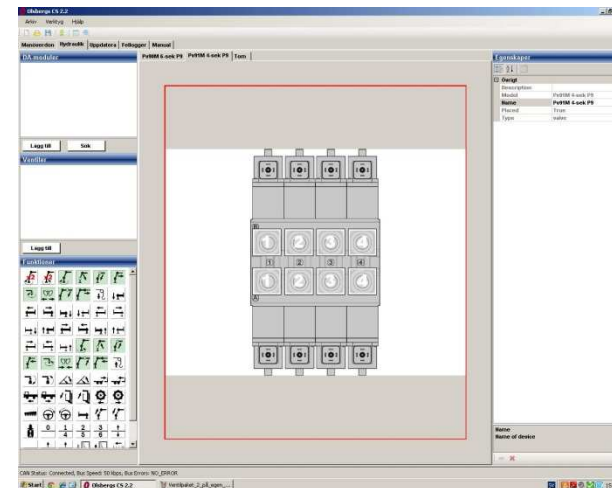

Figure 67. Valve block placed in the *working area*.
4. Release the mouse button and the valve block will be placed on the *working area*, see Figure 67.